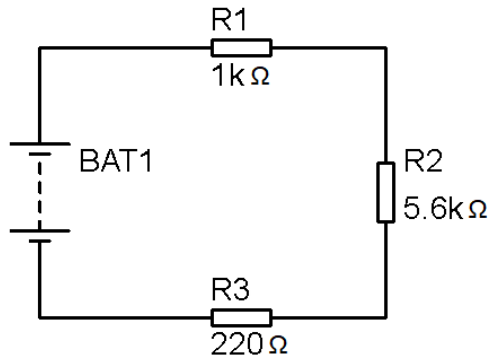

Figure 4 – Circuit 1
a) Find the total resistance of the circuit shown in figure 4 below. Show all your working.